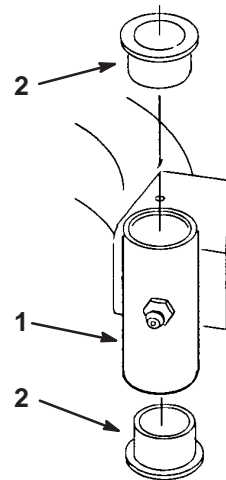

Figure 25
4. Insert a pin punch into the mounting tube and carefully drive out the bushings (Fig. 25). Clean the inside of the mounting tube.